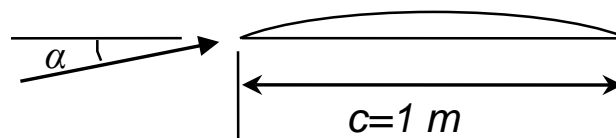

Figure Q.2
- (iii) Find the drag coefficient on the aerofoil sketched in figure Q.2 below, when it is placed at an angle of attack of 0° in a Mach 3.0 flow stream. The aerofoil has a chord $c=1.0$ m, a flat lower surface and an upper surface shape given by $y=0.2x(1-x)$ m, with x measured from the leading edge along the chord line.